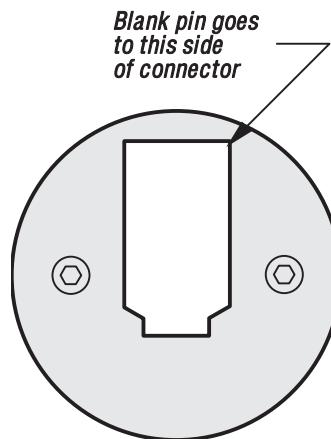

Figure 5-2. Jog handle encoder.
3. Unplug the cable leading to the jog handle encoder. **IMPORTANT!** The blank pin side of the connector must face as shown in Fig. 5-2 when reconnecting; otherwise, damage may occur to the machine.